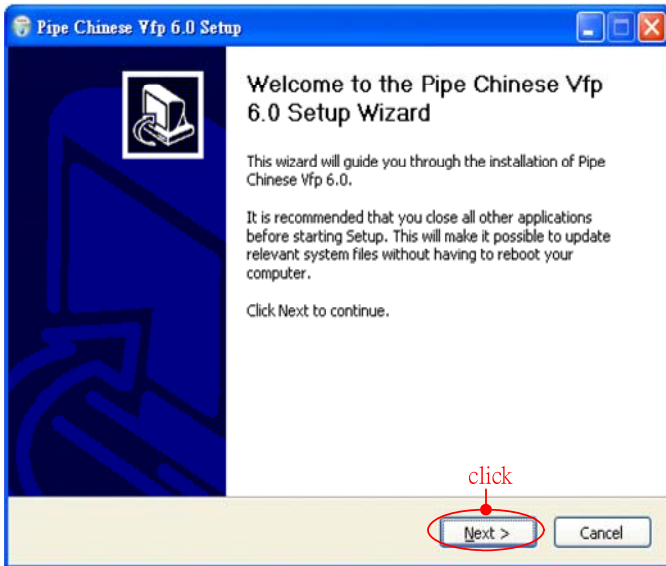

fig.4
- (3) Click *Pipe En-setup.exe* and follow the steps shown on the screen(fig 4~6).
- (4)After completing installation, all contents shall be copied into **disc C** with file name 「*Pipe En\_*」, and program 「*Pipe English*」 will be shown on the Desk Top as a shut-cut.